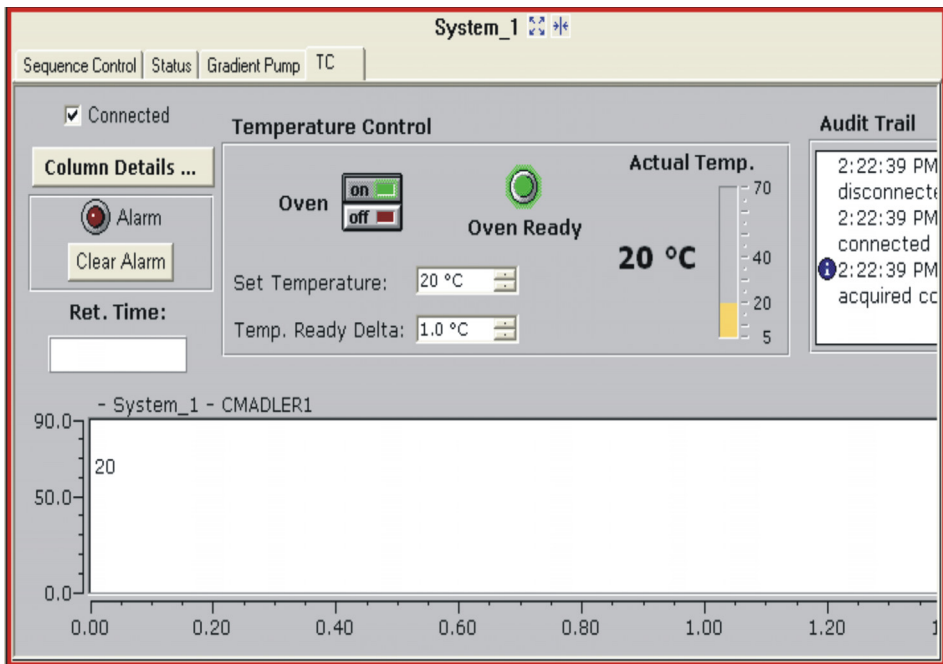

Figure 4-6. TC Control Panel
2. To display the TC Control panel, select the **TC** tab (see Figure 4-6).